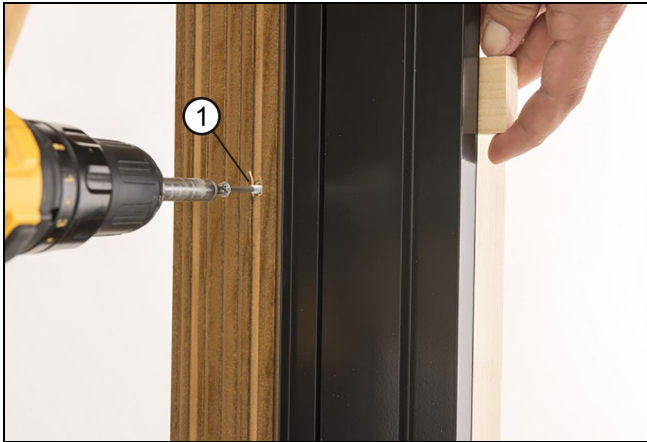

Figure 31
3. Fasten jambs through all pre-drilled holes, shims should be placed at all fastening locations. See Figure 31.